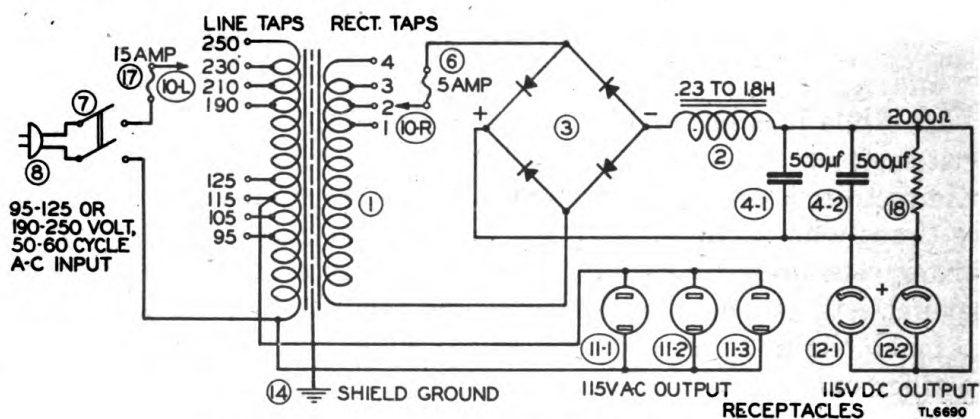

FIGURE 5.—Rectifier RA-87, schematic diagram.
10. Circuit.—Figure 5 is the complete schematic diagram of Rectifier RA-87. The functions of the different parts are discussed in the following paragraphs.